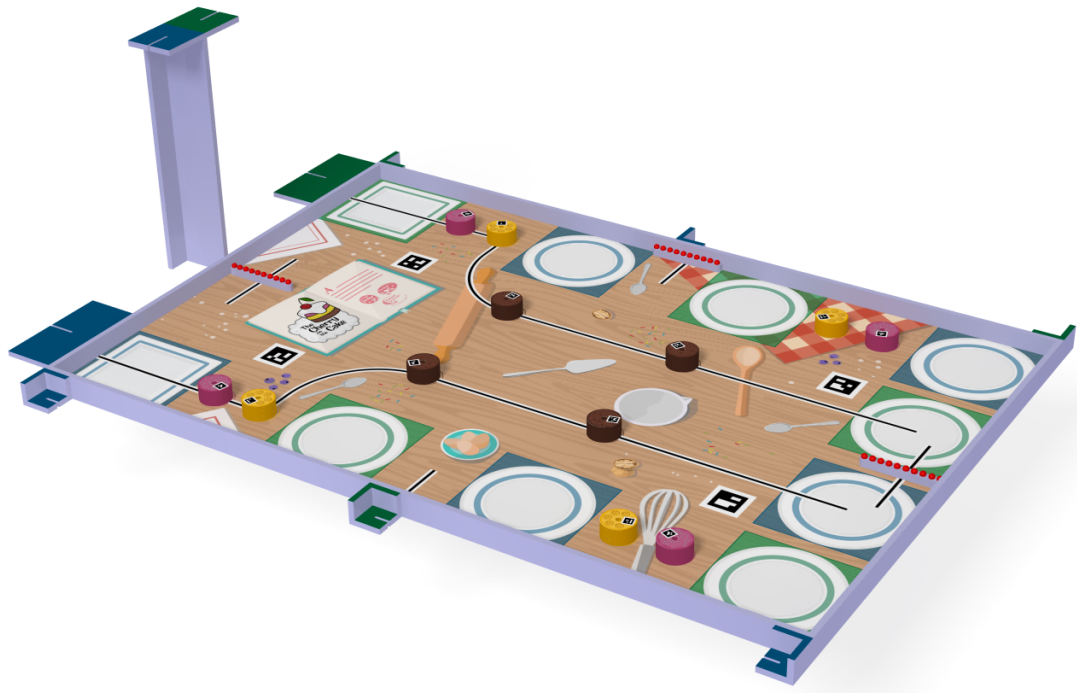

Fig. 1: Table representing the robots environment, created in the simulation framework.
- When it is possible, try to explain your algorithms with an example derived from the problem you are working on. For instance, the principle of the pathfinder should be explained from an example on the project map (see Fig. 1), rather than just with general principles.
In this project, you are provided with a simulation environment (created with Robotran, <http://www.robotran.be>) representing mobile robots with either two differentially-driven standard wheels or three swedish wheels, and moving on a table of dimension 3 m x 2 m. The simulated mobile robots are models of a real robot called *Minibot*. The rendering of this table is strongly inspired from the one being used in the Eurobot contest (<http://www.eurobot.org/>), see Fig. 1.